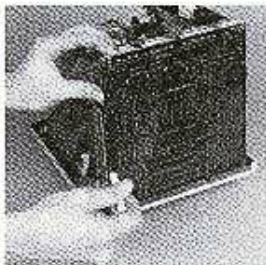

Figure 2-15
- b. Place one side of the main logic board in the guide rail. Using a flat-bladed screwdriver, pry the other side of the main logic board into the guide rail. See Figure 2-15.